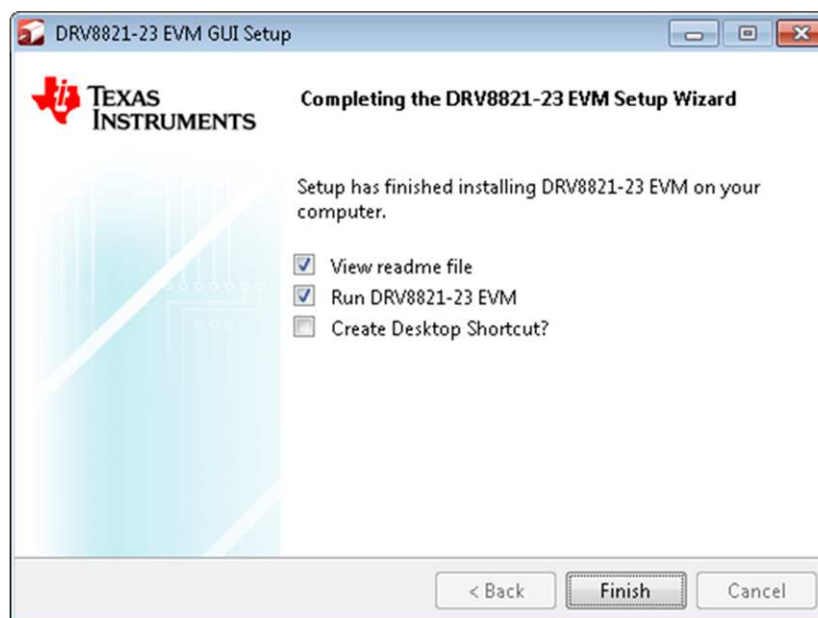

Figure 19. Installation Complete
19. Figure 19 appears denoting the completion of DRV8821/DRV8823 EVM GUI Installation. Click **Finish**.